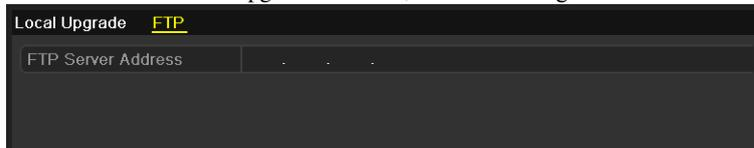

Figure 12. 223 FTP Upgrade Interface
2. Click the **FTP** tab to enter the local upgrade interface, as shown in Figure 12. 223 .